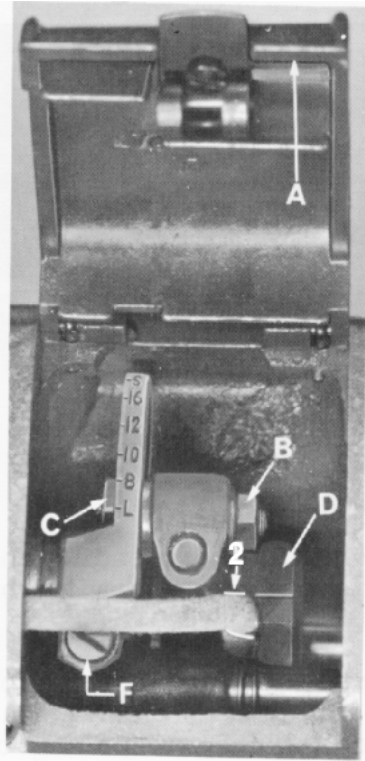

Fig. 12
Open top cover (A, Fig. 12) in the head of the machine and loosen needle frame drive segment locking nut (B). Set connection stud (C) to point of maximum number of stitches per inch of needle feed. This would locate the connecting arm at letter "S".